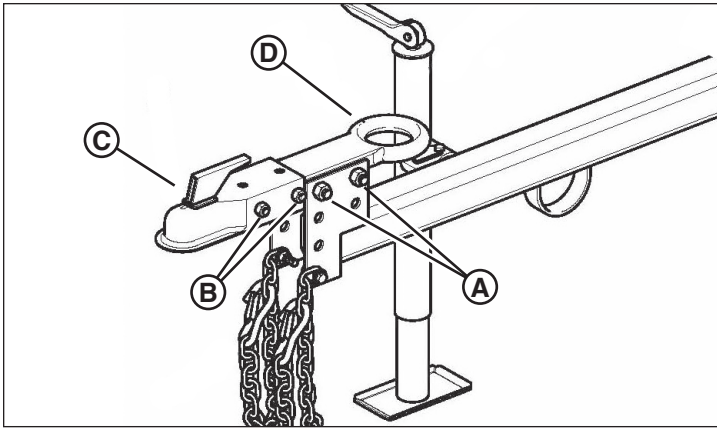

Figure 3
2. To change the position of the trailer coupler and the lunette eye, remove the two hex head screws and lock nuts (A, Figure 3) securing the channel portion of the lunette eye to the tongue. Discard the lock nuts. Do not remove the two hex head screws and lock nuts (B) securing the trailer coupler to the lunette eye.
3. Select the trailer coupler (C, Figure 3) or lunette eye (D) (whichever is required to couple the arrow board trailer to the tow vehicle), and position it at the front of the tongue. Determine the height which works best for the tow vehicle.